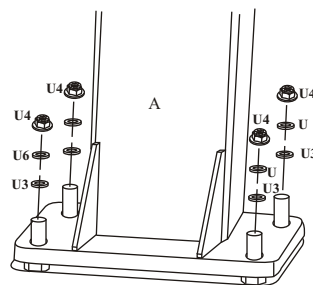

FIGURE 1B
- B. Remove the Padding from Main Post (A). Place the Main Post (A) over the J-Bolts. Slide a 18mm Thick Washer (U3), a Lock washer 18mm (U6) and thread a 18mm Hex Nut (U4) to each J-bolt. Tighten the Nuts only a few turns onto the J-Bolts as shown in FIGURE 1B.
- C. If the Main Post (A) is not exactly vertical, adjust the 18mm J-Bolt Hex Nuts (U4) located under the Post base. Tighten all of the Hex Nuts (U4) Above Post base when Main Post (A) is vertical.